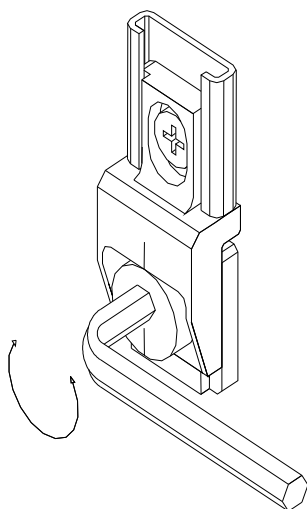

Fig. 8
- 2.1.25.3 Screws with special combination countersunk/pan heads are also an acceptable head format. See Fig. 8 below.